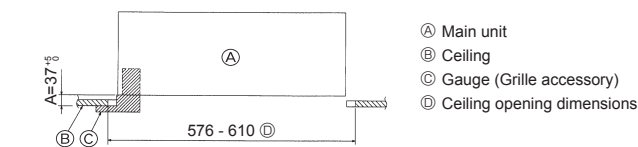

Fig. 2-6
- (1) In advance, set the parts onto the suspension bolts in the order of the washers (with insulation), washers (without insulation) and nuts (double).
- (2) Lift the unit to the proper height of the suspension bolts to insert the mounting plate between washers and then fasten it securely.
- (3) When the main unit can not be aligned against the mounting hole on the ceiling, it is adjustable owing to a slot provided on the mounting plate. (Fig. 2-6)